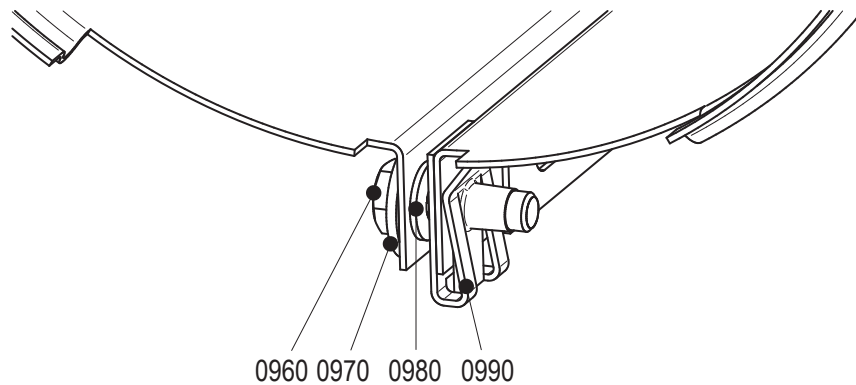

Figure 14: Fitting jacket.
- 1 Loosen bolts (0960). See figure 14.
- Close the jacket and fit bolt (0960). See figure 14.